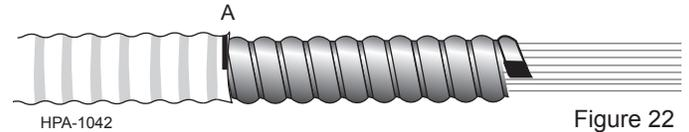

Figure 22
**5.13** Remove the jacket from the interlocking armor back to the A mark (Figure 22).